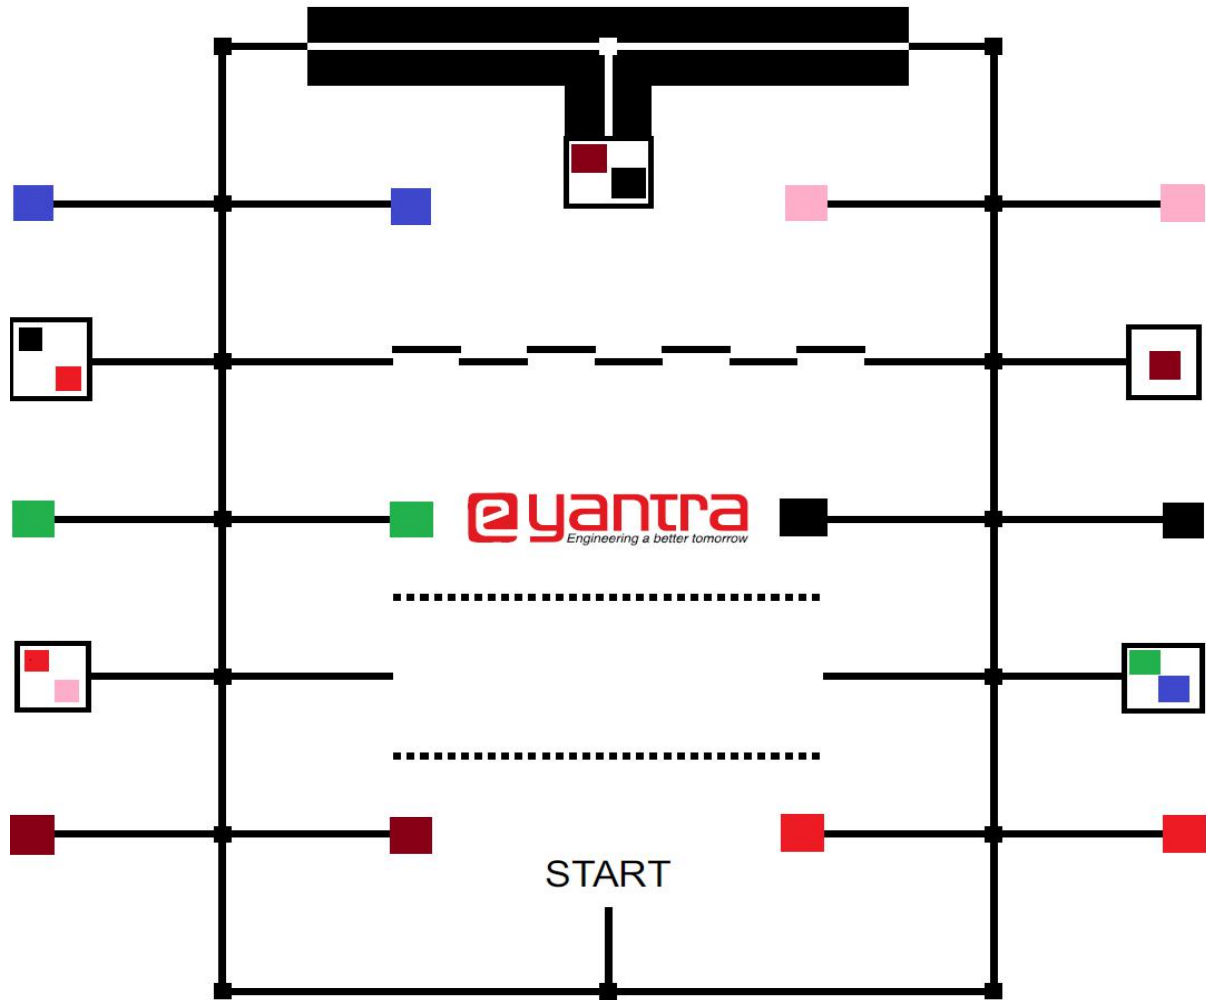

Figure 2: Configuration Image
The following Construction Materials are present in the different Warehouses as shown in Figure 2.
b). Team has to prepare arena as per **Configuration Table and Configuration image** given in Table 1 and Figure 2 respectively.
Details of Arena design (Refer to Figure 2):
When you are ready with all the above steps, you have to set up the Arena according to a given Configuration. Each Configuration involves a Configuration Image as shown in Figure 2 and a Configuration Table as shown in Table 1 that describes the type of House viz. low-rise House or a high-rise House, the type and quantity of CM required by different Houses.